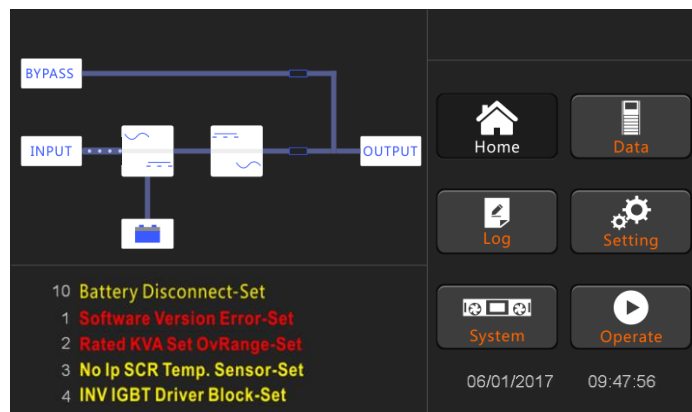

Fig.4-1 Interface of rectifier starting
4. The LCD home interface shows that the system rectifier is working and the indicator flashes, as shown in Fig.4-1.